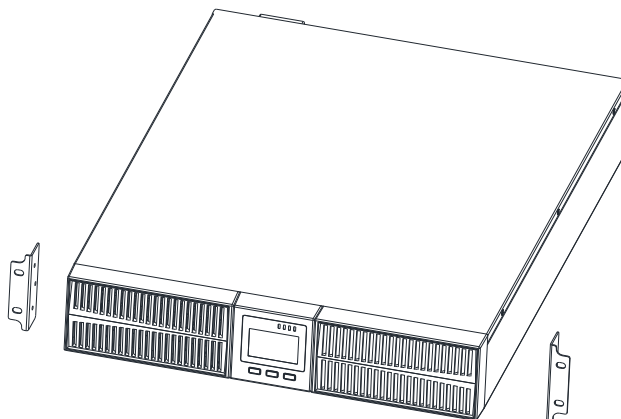

Fig.2-6 Installing brackets
1. Take out two brackets and six M4 screws from the accessories, and fix the brackets onto the UPS using the screws through installation hole, as shown in Fig.2-6.